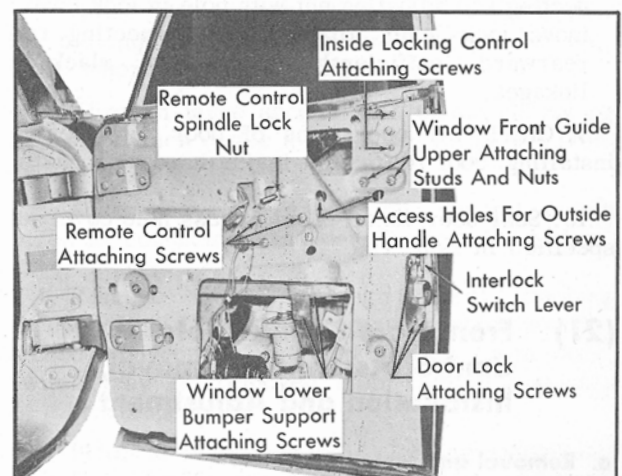

Fig. 17-24 Rear Door Lock Attachment
3. Through access holes indicated in Fig. 17-24, remove outside handle attaching screws and remove handle with attached connecting rod from door.
4. Suitably mark safety interlock switch lever and lever shaft so lever can be reinstalled in same position. Remove set screw and carefully pry interlock switch lever from shaft, Fig. 17-24.
6. Remove door lock attaching screws from face of door lock pillar, Fig. 17-24, and remove lock from door through large access hole.
3. Remove window front guide upper attaching studs and nuts, Fig. 17-24.
4. Remove inside locking control attaching screws, Fig. 17-24; then remove inside locking control with attached connecting rod from door.
3. Remove window lower bumper support attaching screws and remove bumper and support assembly, Fig. 17-24.
5. Remove remote control attaching screws, Fig. 17-24, and remove assembly through large access hole.
2. Loosen lock nut at base of knob spindle. Move spindle "up or down" as required, then tighten lock nut, Fig. 17-24.
(30) Rear Door Lock Remote Control Free-Wheeling Solenoid Removal and Installation